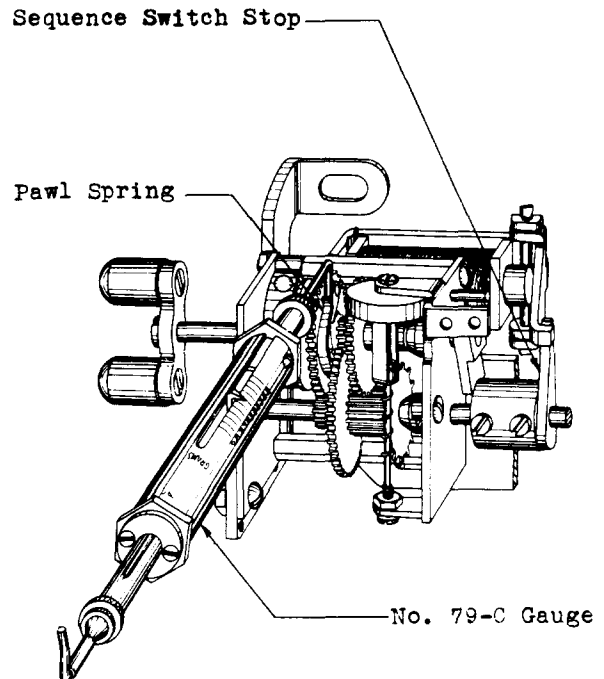

Fig. 14 – Method of Measuring Pawl Spring Tension with the No. 79-C Gauge
- (1) To check the tension of the pawl spring, apply the No. 70-C gauge to the end of the spring as shown in Fig. 14.